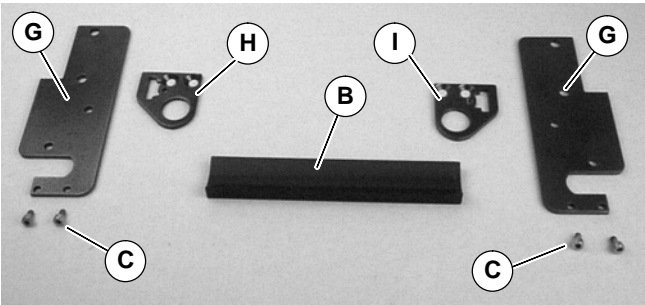

Figure 6
- Gather components (Figure 6)